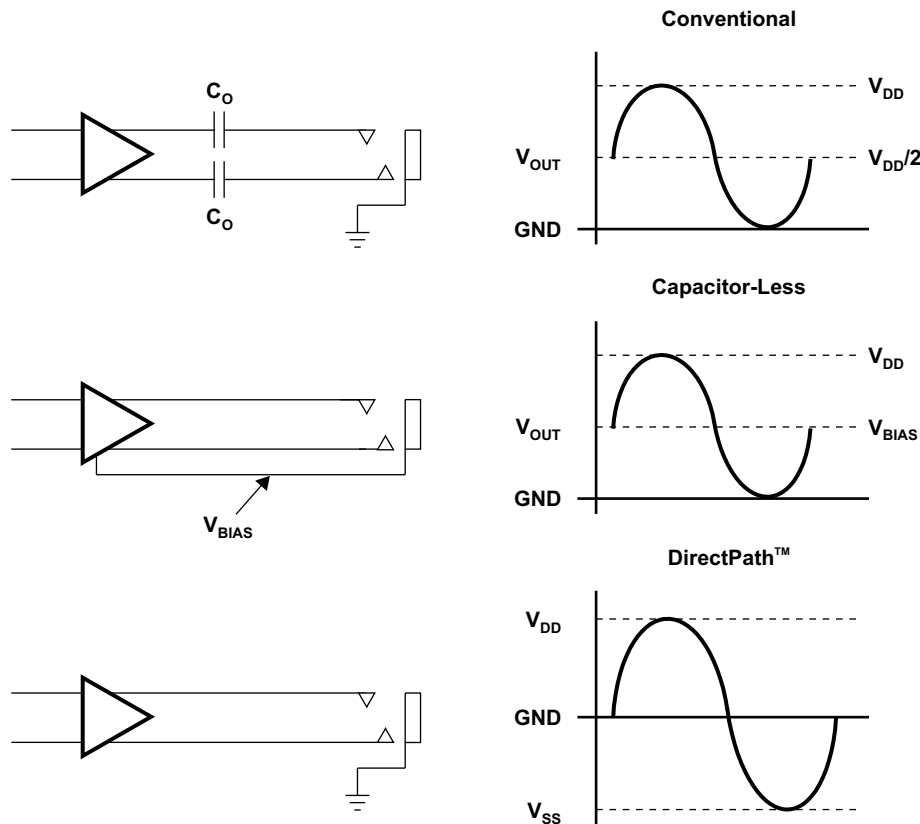

Figure 44. Amplifier Applications
The headphone amplifier has a fixed gain of -1.5 V/V. It uses single-ended (SE) inputs. The DirectPath™ amplifier architecture operates from a single supply but makes use of an internal charge pump to provide a negative voltage rail. Combining the user-provided positive rail and the negative rail generated by the IC, the device operates in what is effectively a split supply mode. The output voltages are now centered at zero volts with the capability to swing to the positive rail or negative rail. The DirectPath™ amplifier requires no output dc blocking capacitors and does not place any voltage on the sleeve. The block diagram and waveform of Figure 44 illustrate the ground-referenced headphone architecture. This is the architecture of the TPA6043A4.
Single-supply headphone amplifiers typically require dc-blocking capacitors. The capacitors are required because most headphone amplifiers have a dc bias on the outputs pin. If the dc bias is not removed, the output signal is severely clipped, and large amounts of dc current rush through the headphones, potentially damaging them. The left-side drawing in Figure 44 illustrates the conventional headphone amplifier connection to the headphone jack and output signal.
Two different headphone amplifier applications are available that allow for the removal of the output dc blocking capacitors. The capacitor-less amplifier architecture is implemented in the same manner as the conventional amplifier with the exception of the headphone jack shield pin. This amplifier provides a reference voltage, which is connected to the headphone jack shield pin. This is the voltage on which the audio output signals are centered. This voltage reference is half of the amplifier power supply to allow symmetrical swing of the output voltages. Do not connect the shield to any GND reference, or large currents will result. The scenario can happen if, for example, an accessory other than a floating GND headphone is plugged into the headphone connector. See the second block diagram and waveform in Figure 44.